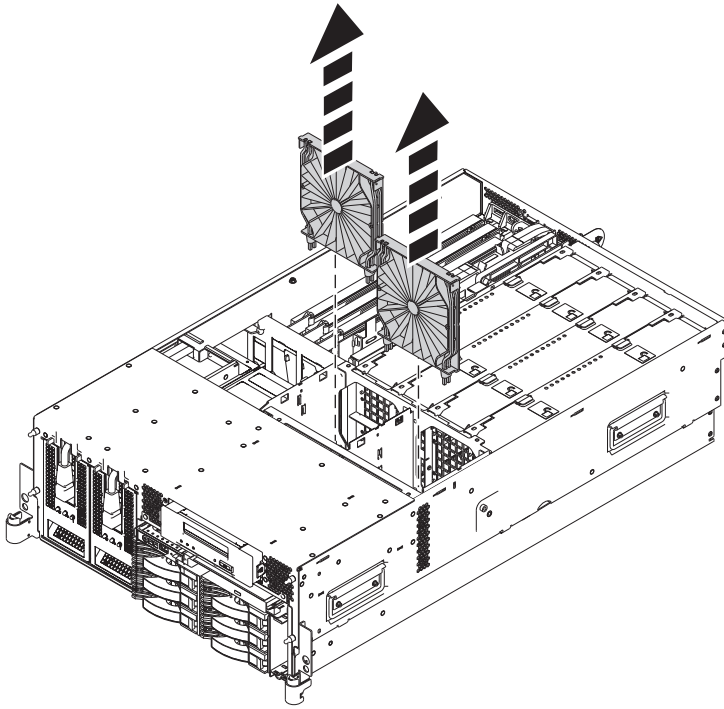

Figure 10. Removing the air baffles from the 8204-E8A or 9409-M50 fan cage
- 2) To remove the air baffles, grasp and pull the air baffle out of the fan cage, as shown in Figure 10 on page 16.